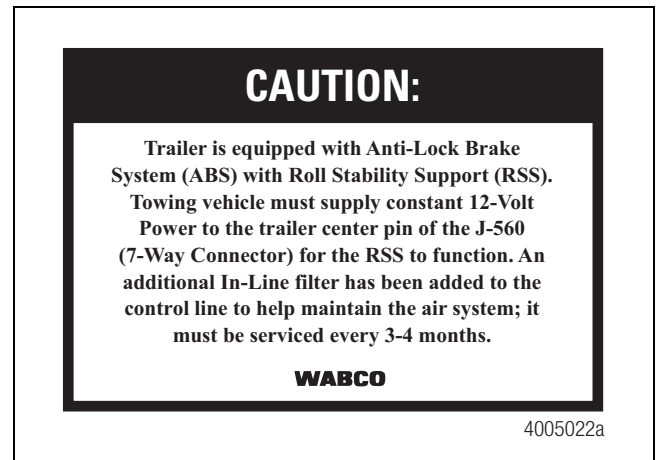

Figure 42
2. Affix the constant power label (part number 899 201 833 4) to the front of the trailer, near the seven-way connector. Figure 42.